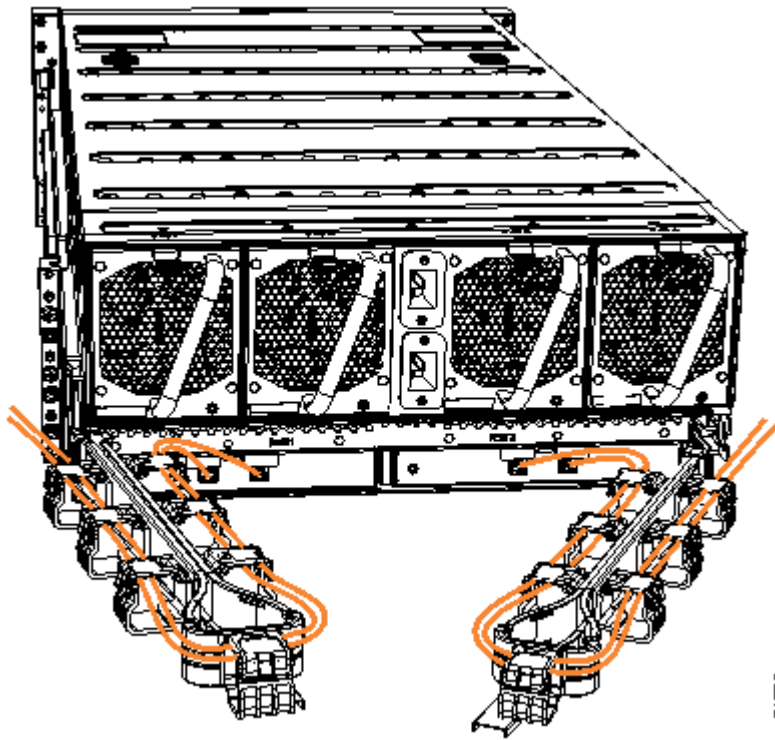

Figure 56. Example of SAS cables routed through the cable management arms
8. Route the SAS cables through the cable management arms, as shown in Figure 56 on page 56.